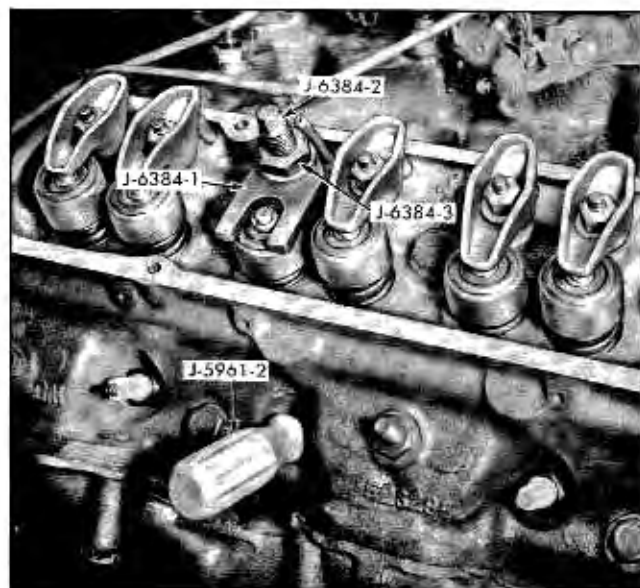

Fig. 6-16 Valve Spring Compressed
3. After removing rocker arm, thread valve spring compressor stud J-6382-2 on rocker arm stud and compress valve spring using compressor J-6384-1 and nut J-6384-3 while holding valve up with Valve Holder J-5961-2 (Fig. 6-16). Remove valve spring retainer cup locks and then remove valve spring compressor, valve spring retainer cup shield and valve stem seal.